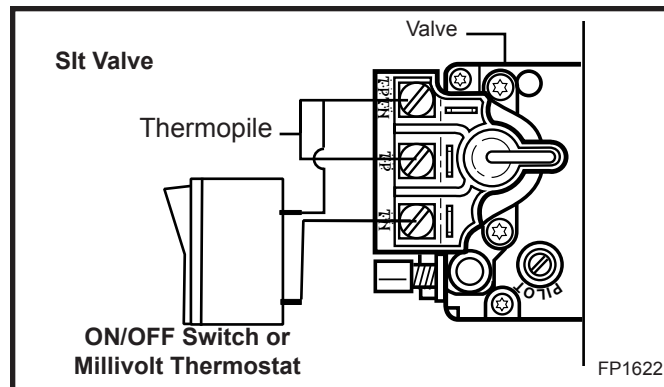

Fig. 53 Install wiring to switch before connecting to valve.
3. Attach wires to valve terminals. (Fig. 53)
2. Connect the thermostat wires to the valve. (Fig. 53)
Read these instructions carefully and familiarize yourself with the burner controls shown on Page 31. Locate the pilot assembly, Figure 53. Follow the lighting instructions on Page 31 exactly.